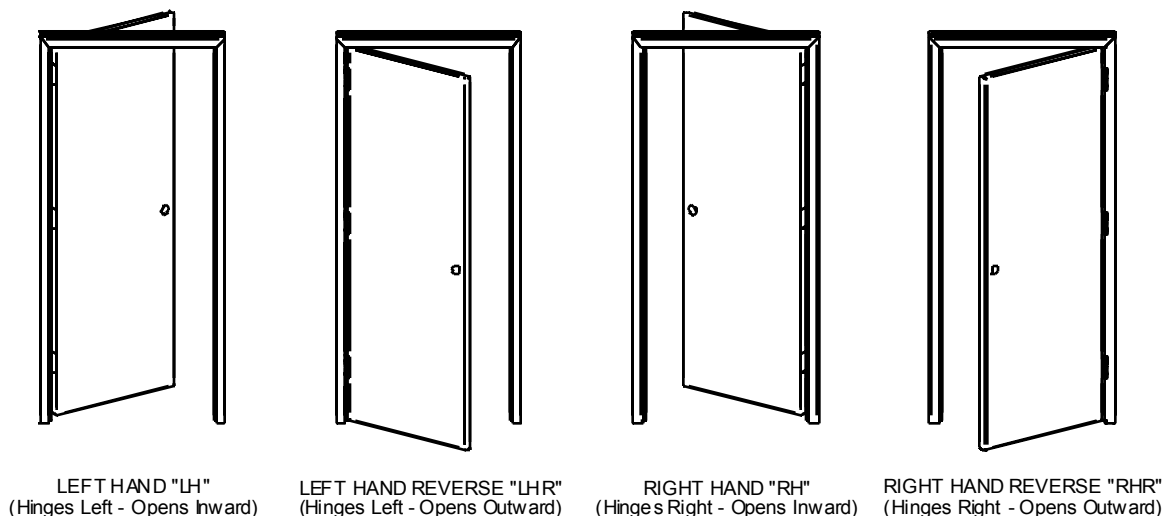

Figure 2
- A) Verification of the handing requirement of the door to be secured by the device (**Figure 2** or the included Template may be used to determine the handing of a door).